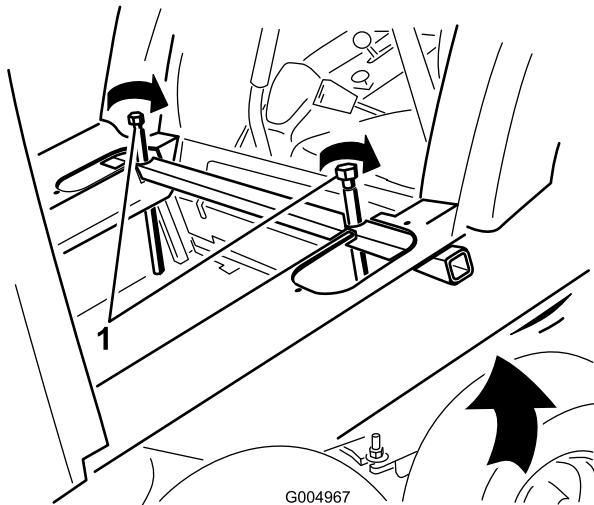

Figure 85
27. Raise the rear of the cab high enough to clear the back of the seat by slowly and evenly tightening the jacking bolts (Figure 85) on each side of the cab jack tube a